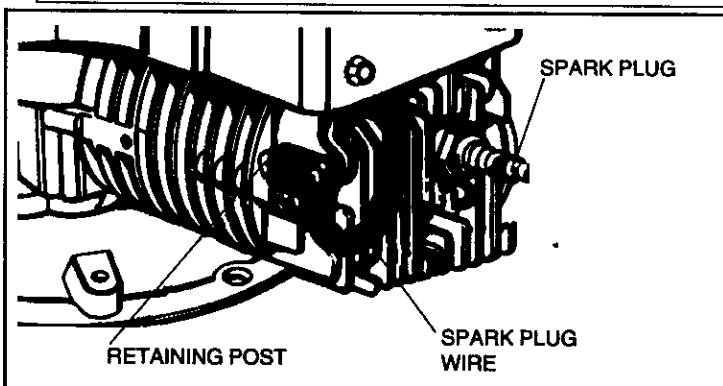

Figure 6
② DISCONNECT SPARK PLUG WIRE FROM SPARK PLUG AND ATTACH IT TO RETAINING POST (see Figure 6 on Page 3).
① See mower manufacturer's instructions.
② AFTER ENGINE IS STOPPED:
A. DISCONNECT SPARK PLUG WIRE FROM SPARK PLUG AND ATTACH IT TO RETAINING POST (see Figure 6).